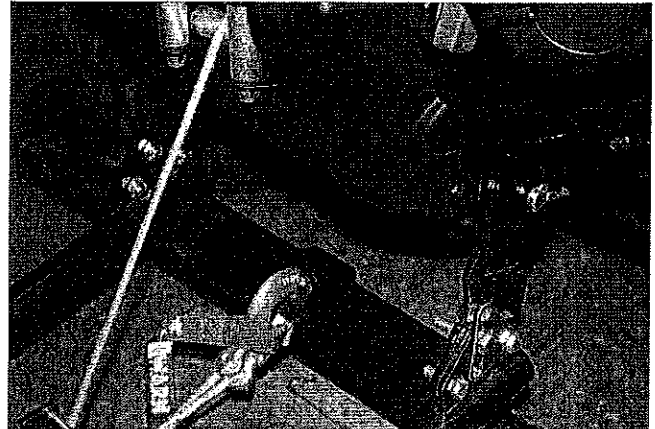

Figure 11
19. Attach the winch line to the push tube assembly through the rope guide as described in the Plow operators guide. Figure 11.